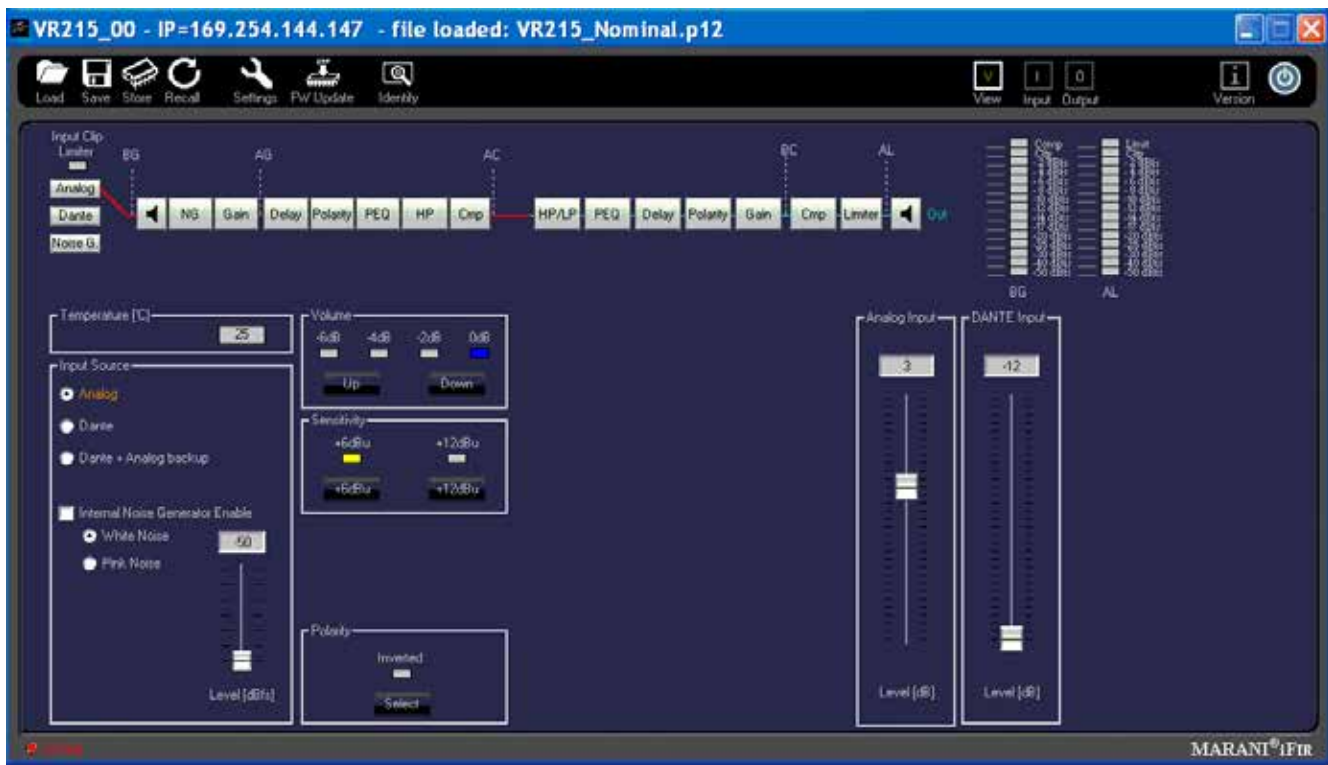

Fig. 6
The various parameter pages for the Versarray™ Pro 215 Sub will now come up in a new large window within the Start Window. See Fig. 6
1. Position the View page from Fig. 6 so it does not cover up the row of icons at the top left corner of the Start page, but still has the bottom portions of the View page visible.